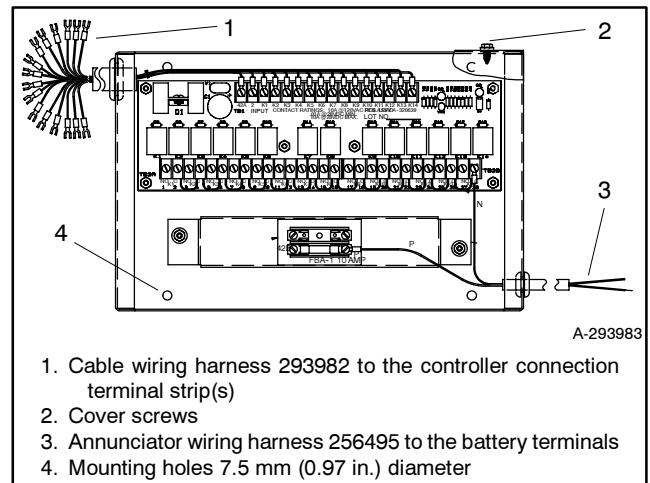

Figure 6 14-Relay Dry Contact Box
3.1 Determine a mounting location for the 14-relay dry contact box (A-293983). See Figure 6. Consider the supplied wiring harness length when choosing a mounting location. If the most suitable location requires a longer harness, fabricate a new harness using the supplied harness as a guide.